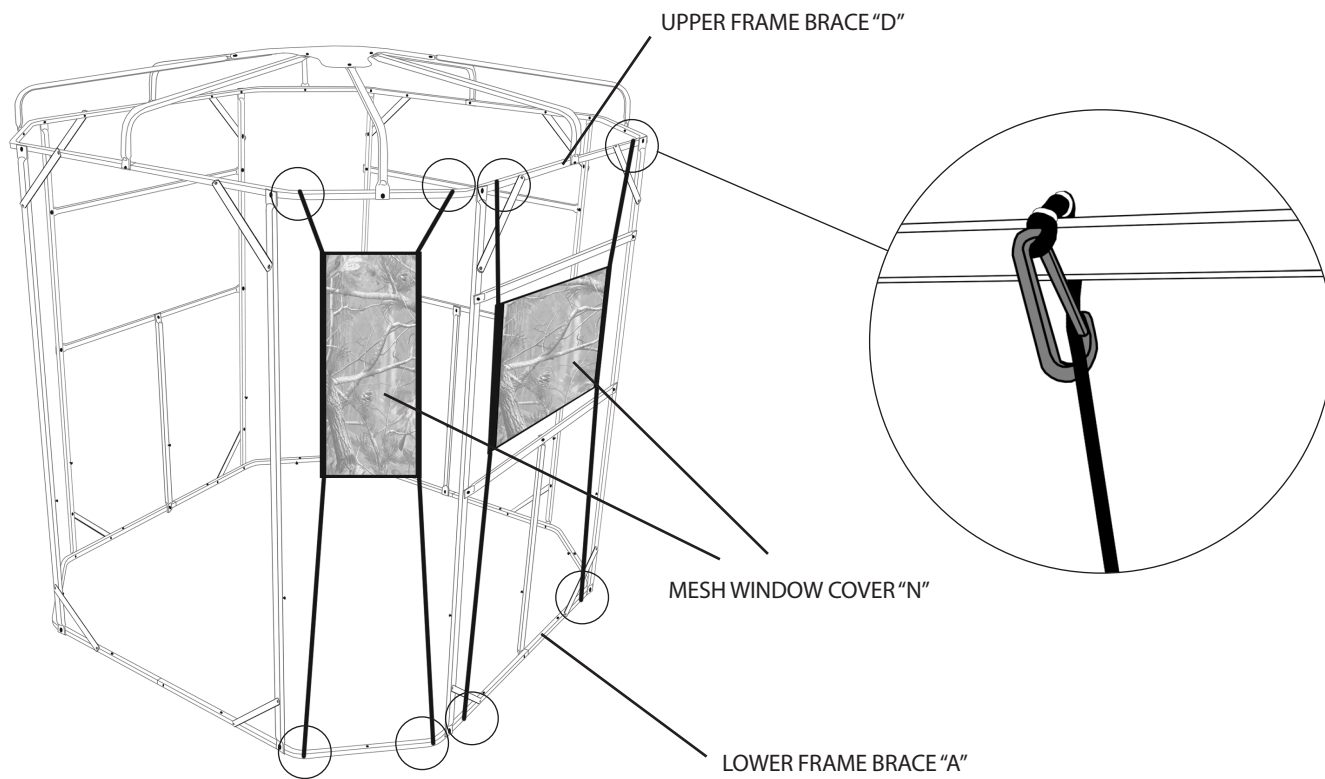

Figure 26.1
STEP 19: Locate the (7) CAMO MESH WINDOW COVERS "N". Starting at the top, attach each clip to the UPPER FRAME BRACE "D", then repeat the process for the bottom clips, attaching to the LOWER FRAME BRACE "A", as illustrated in Figure 26.1.